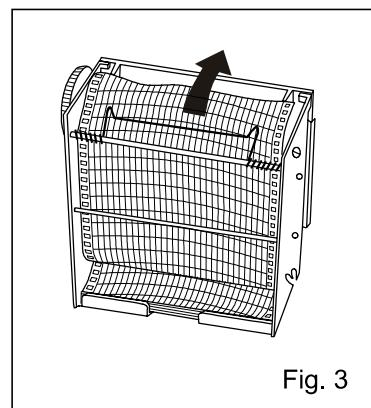

Fig. 3
4. Set the recording chart according to the mark of day and time. (Fig. 3)